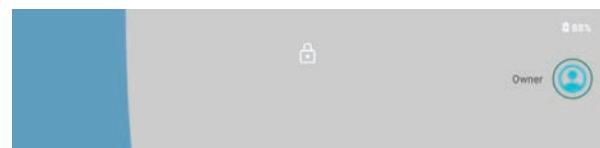

Figure 4. Android lock screen
2. From the Android lock screen, tap on the **Admin (Owner)** icon, (Figure 4).